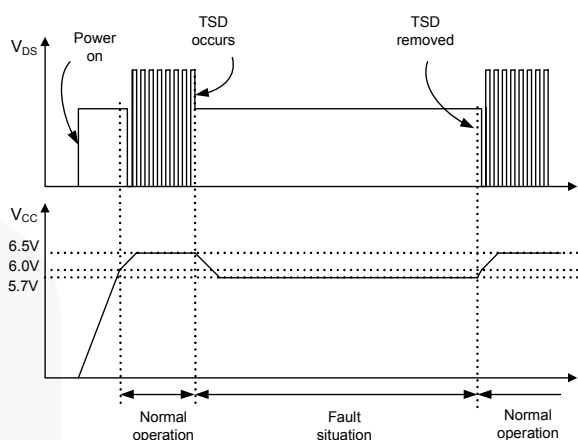

Figure 19. Over-Temperature Protection (OTP)
3.2 Thermal Shutdown (TSD): The senseFET and the control IC in one package makes it easy for the control IC to detect an abnormal over temperature of the senseFET. When the temperature exceeds ~140°C, the thermal shutdown triggers. When TSD triggers, delay current is disabled, switching operation stops, and V_{CC} through the internal high-voltage current source is set to 5.7V from 6.5V, as shown in Figure 19. Since the TSD signal prohibits the senseFET from switching, there is no switching until the junction temperature decreases sufficiently. If the junction temperature is lower than 60°C typically, TSD signal is removed and V_{CC} is set to 6.5V again. While V_{CC} increases from 5.7V to 6.5V, the soft-start function makes the senseFET turn on and off with no voltage and/or current stress.